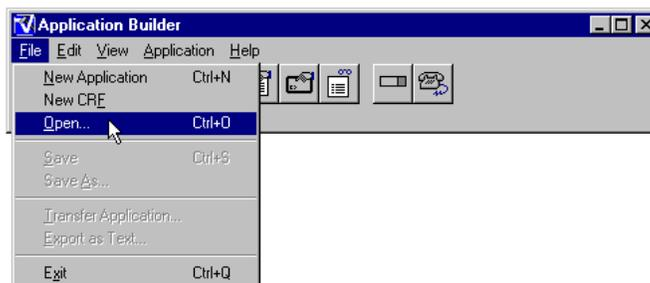

Figure 1-6 File Menu – Open Application
6. Choose **Open** from the **File** menu (Figure 1-6) or type **Ctrl+O**.